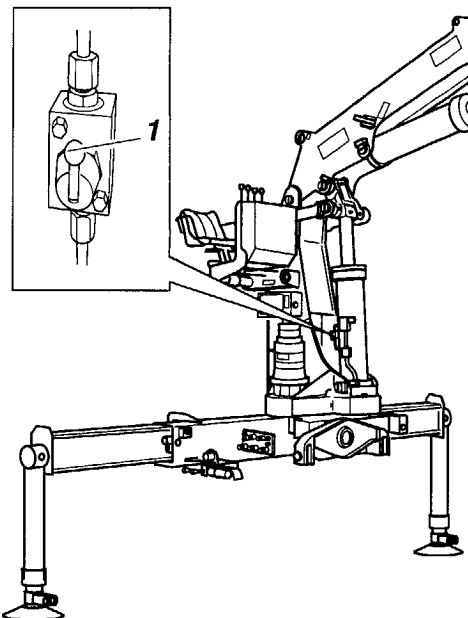

Figure 12. 31 Emergency Boom Lowering Switch
- 12.12.2.2 To enable emergency lowering of the boom pull the switch (Figure 12. 31. (1)).